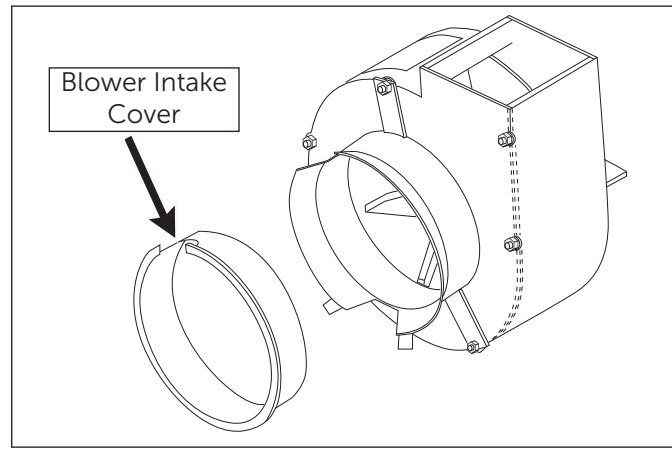

Figure 1.3
7. For GHS (Grass Handling System) equipped Walker tractors, install a blower intake cover in the blower intake tube. The cover “unloads” the blower and seals the intake to effectively eliminate power loss and noise when the blower is not being used. Refer to figure 1.3.